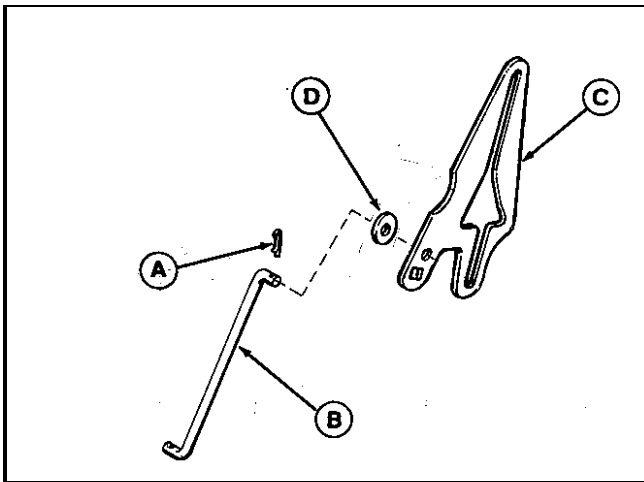

Figure 5. Special Washer Installation
- a. Remove cotter pin (A, figure 5) and remove ground speed control rod (B) from cam plate (C).
- b. Install special washer (D) on control rod (B). Reinstall rod to cam plate and secure with cotter pin.